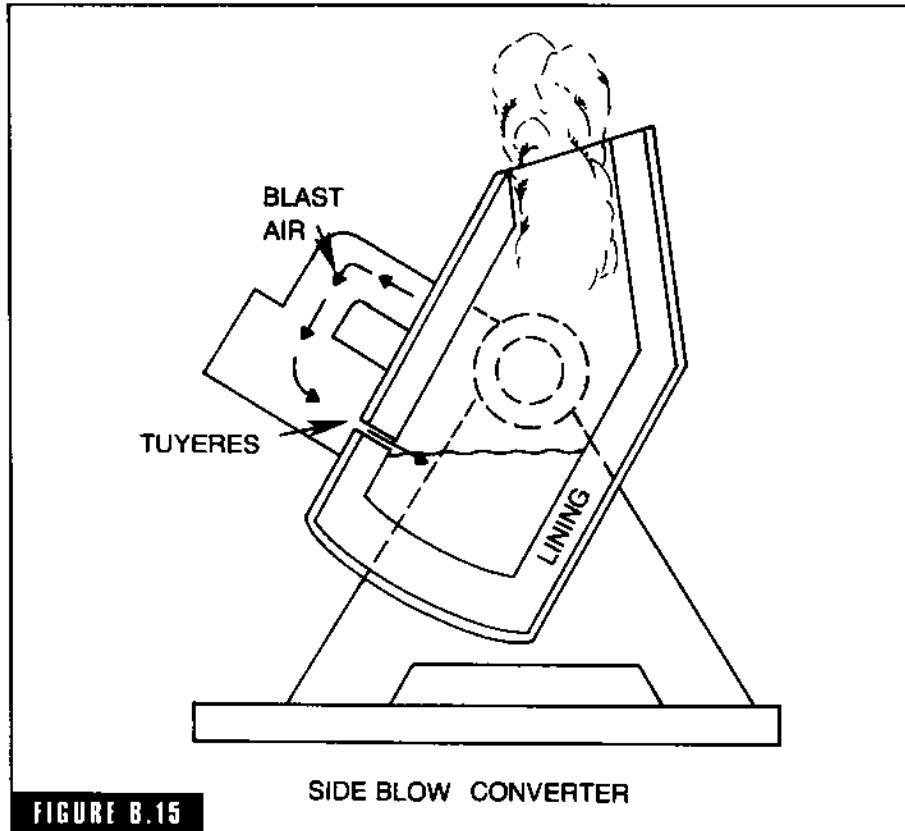

FIGURE B.15
**bessemer process** A steel-making process that blows air through or over the molten pig iron in a converter, oxidizing the silicon and carbon (Fig. B-15). The carbon is reduced to carbon monoxide and liberated as gas and the oxides of manganese and silicon form with the slag. The reactions which take place are exothermic and no additional heat is necessary in the refining process, which is called the *blow*. It takes approximately 20 minutes to blow a heat. When the heat is finished it consists of some iron oxide, .03 percent silicon and manganese and approximately .06